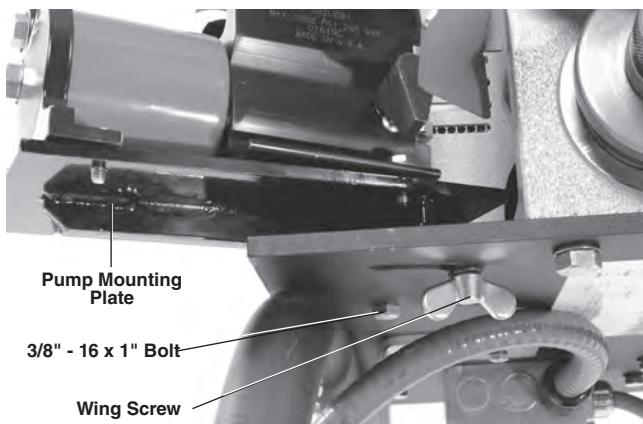

Figure 6 – Mounting Hydraulic Pump
7. Place the pump mounting plate over the hole and slot on the switch side of the 918-I. From the bottom of the base plate, insert the $\frac{3}{8}$ " – 16 x 1" bolt with washer into the hole and screw into pump mounting plate (Figure 6).